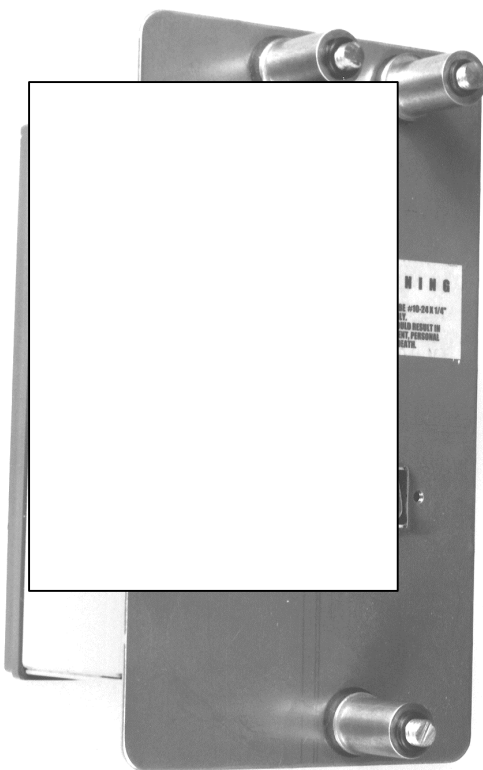

Figure 11. Trip unit attached to its mounting plate.
1. Place a lock washer and flat washer over each of the three $\frac{1}{4}$ -20 x $1\frac{3}{8}$ " screws provided and insert through the mounting holes on the trip unit mounting plate. From the rear of the plate, place a flat washer, spacer, and O-ring over the screws, as shown in Figure 11.
2. Remove the large screw from the rear of the trip unit. Place the trip unit in position on the mounting plate, with the 50-pin connector aligned with the opening in the plate. Secure with the large screw, as shown in Figure 11.